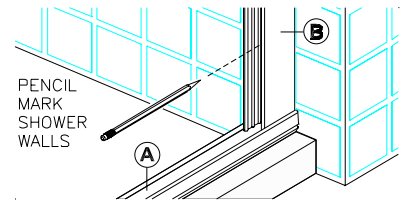
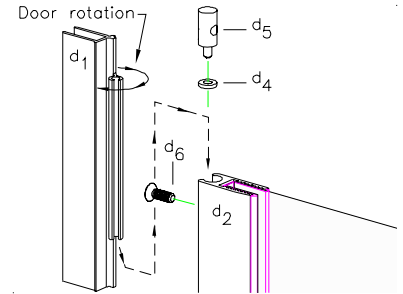
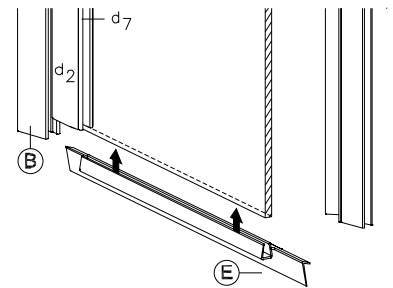
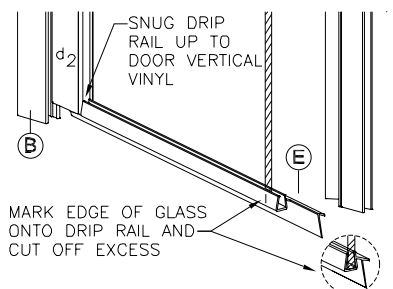

figure 2
figure 3
figure 4
figure 5
3. Place Wall Jambs (B) on to ends of Sill (A) and up against shower walls as shown in figure 2. Plumb the Jambs, then pencil mark their installation holes locations on the shower walls (3 per jamb). Remove Wall Jambs. Use a 3/16" drill bit (designed to drill through material you are working with) to drill 1-1/4" deep installation holes in locations previously marked. Insert Plastic Screw Anchors (I) into holes.
4. Reposition Wall Jambs (B) as before and secure Jambs to walls using the six(6) 1-1/2" Installation Screws (H) provided (3 per jamb).
5. Decide from which side your Door Assembly (D) is to hinge (left or right, your choice). Install Glazing Vinyl (d7) onto hinge side of glass as shown in the exploded view. Begin glazing at top of glass edge and work down.
7. Insert the Hinge Post (d1) into the Hinge Stile (d2) as shown in figure 3. Take a minute to check the door rotation (*is it the correct rotation for your configuration?*) If it is not, then make it so. When satisfied, proceed.
8. Insert Hinge Washer (d4) and Hinge Bushing (d5) into Hinge Stile (d2) as shown in figure 3. Rotate Hinge Post (d1) out of the way and secure the bushing with one(1) Door Assembly Screw (d6) as shown in figure. Repeat step for opposite end.
10. Insert Strike Post (C) into appropriate Wall Jamb. Measure from bottom of Strike Post (where it sits on Sill) to the bottom of the Door Pull (d9). Trim bottom Seal Vinyl (F) to a **1/4" more** than measurement obtained. Insert trimmed Seal Vinyl into Strike Post as indicated in exploded view. Next insert Magnet Strip (G) into Strike Post. Finally insert remaining Vinyl Seal (F) and trim top excess as required. Snip Seal Vinyl as shown on sheet - 1, Detail '1 - A'.
11. Adjust Door Assembly and Strike Post along curb as required. Note: Bottom of Door Assembly must always remain parallel to Sill in order for door to operate properly. When satisfied with door operation, secure Hinge Post and Strike Post to the Wall Jambs using 638PHPT Adjustment Screws (J), see exploded view - sheet 1.
12. If Jamb Caps (K) were purchased, install the Jamb Caps (K) at both the hinge side and the strike side of the door as shown in exploded view - sheet 1. Trim the End Caps to required lengths before installing. Next, Install the Rail End Cap (L) on to end of Door Rail (d3) as shown in exploded view - sheet 1.
13. With drip wing positioned toward inside of shower enclosure, Insert Drip Rail (E) onto the bottom edge of the Door Assembly (D) as shown in exploded view - sheet 1 and figure 4. Now snug the Drip Rail up to the vertical Vinyl; mark the edge of the door glass on the rail and cut off the excess as shown in figure 5.